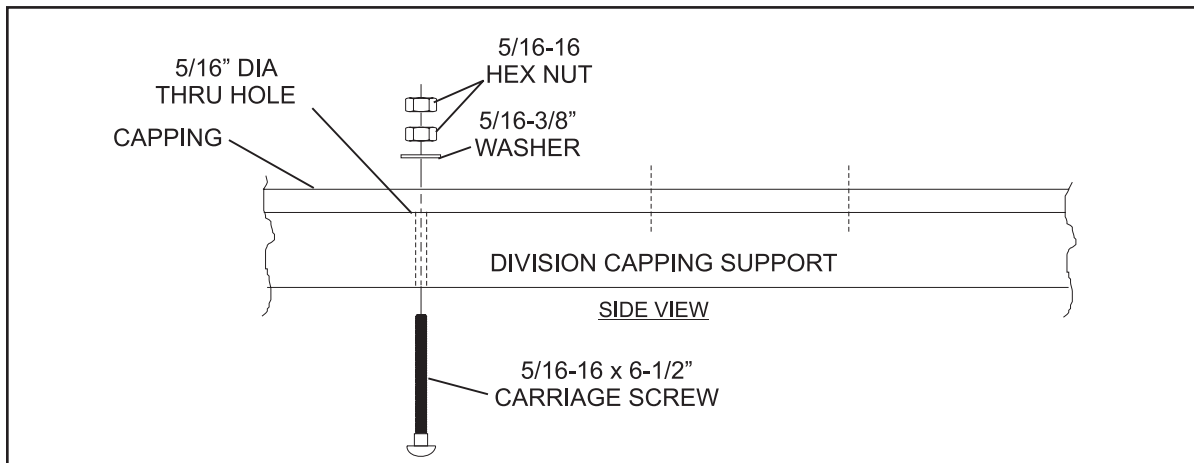

Figure 6
5. Install 5/16-16 x 6-1/2" carriage screw through capping support from bottom and secure with one 5/16 washer and two 5/16-16 hex nuts. Refer to *Figure 6*.